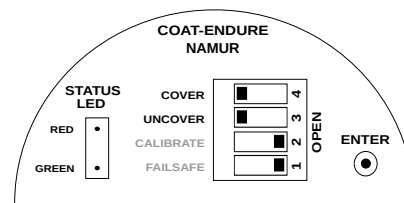

Figure 57: Switch Position Low Current Configuration
- Set the COVER and UNCOVER switch to CLOSE position as per Figure 57.